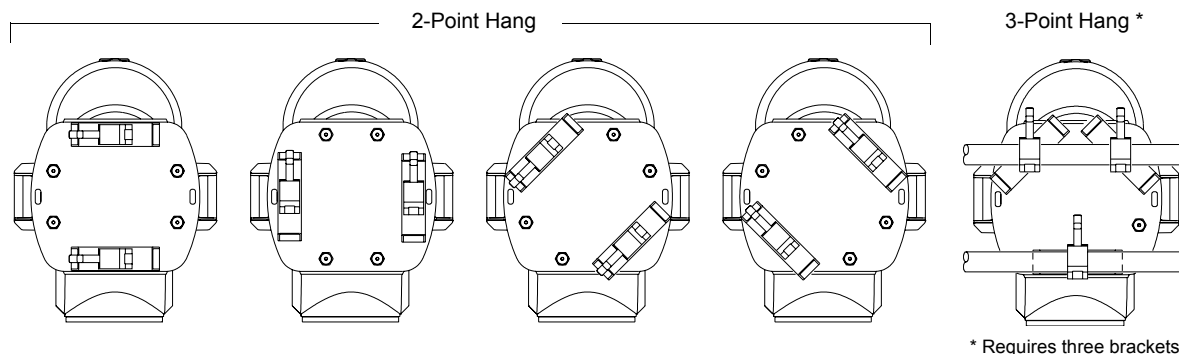

Figure 2-3: Hanging Bracket Orientations
- a. Choose orientation. Brackets may be attached in one of four positions. Refer to Figure 2-3 for a diagram of the orientation options.